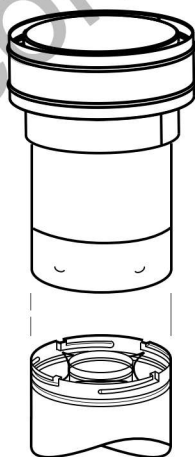

Figure 21
K. Install the vertical termination - The final step involves installation of the Vertical Termination. Extend the vent sections to the height as shown in the "Vertical vent termination section" on **page 5**. The Vertical Termination (**Figure 21**) installs in the exact same fashion as any other **Secure Vent** section. Align the termination over the end of the previously installed section, adjusting the radial alignment until the four locking dimples of the termination are aligned with the inlets of the four incline channels of the last vent section. Push the termination down until it fully engages, then twist the termination clockwise running the dimples down and along the incline channels until they seat at the end of the channels.